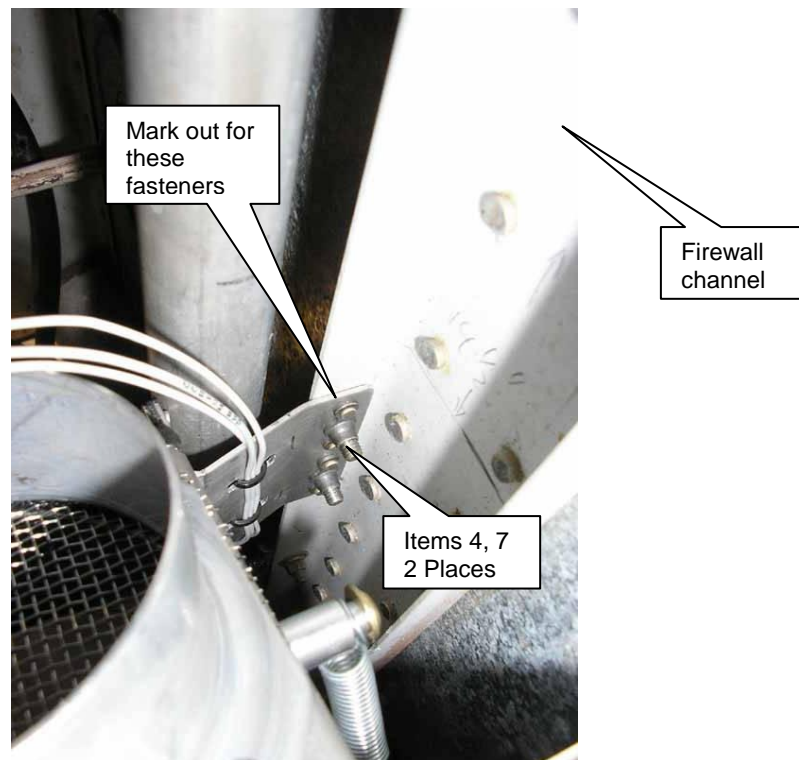

Figure 2
- While in place, mark out 2 holes in the side of the firewall channel and drill to suit AN3 bolt. Refer to Figure 2.